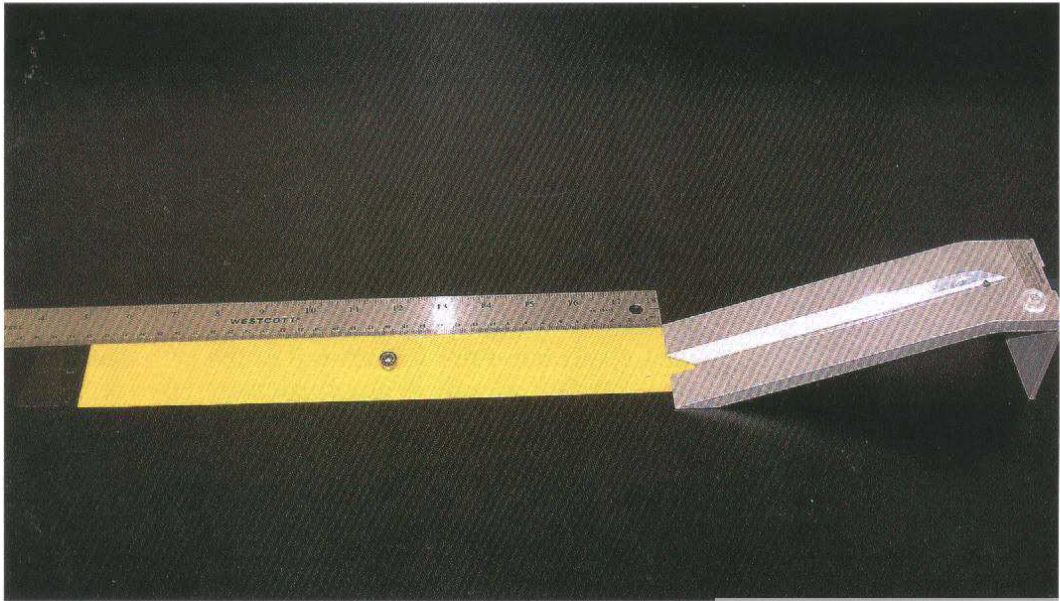

Figure 2. Rolling ball test apparatus and specimen showing distance of roll that is measured.
5.2 Ensure that the working surface is perfectly horizontal. Arrange the specimen to be tested, adhesive side up, on the working surface. Align the raceway of the incline with the tape under test so that at least 300 mm (12") of tape is exposed. The end of the specimen opposite the incline is to be held to the working surface with tape. Using clean dry tongs, place the ball on the upper side of the release pin. Release the ball and allow it to roll to a stop on the adhesive. Measure the distance from the point where the ball initially contacts the adhesive to where the ball stops (Figure 2).